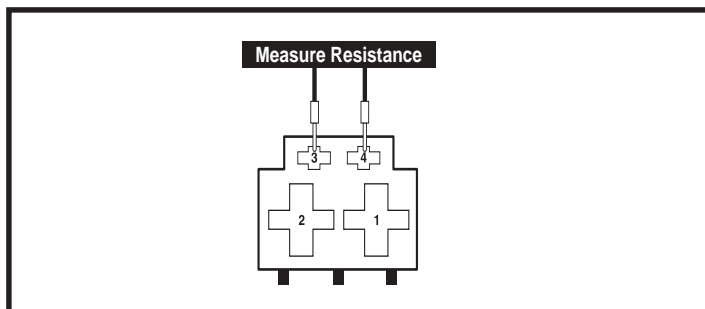

Figure 38. Connector 9a
5. Measure resistance from pin 3 to pin 4 on connector 9a. See **figure 38**.